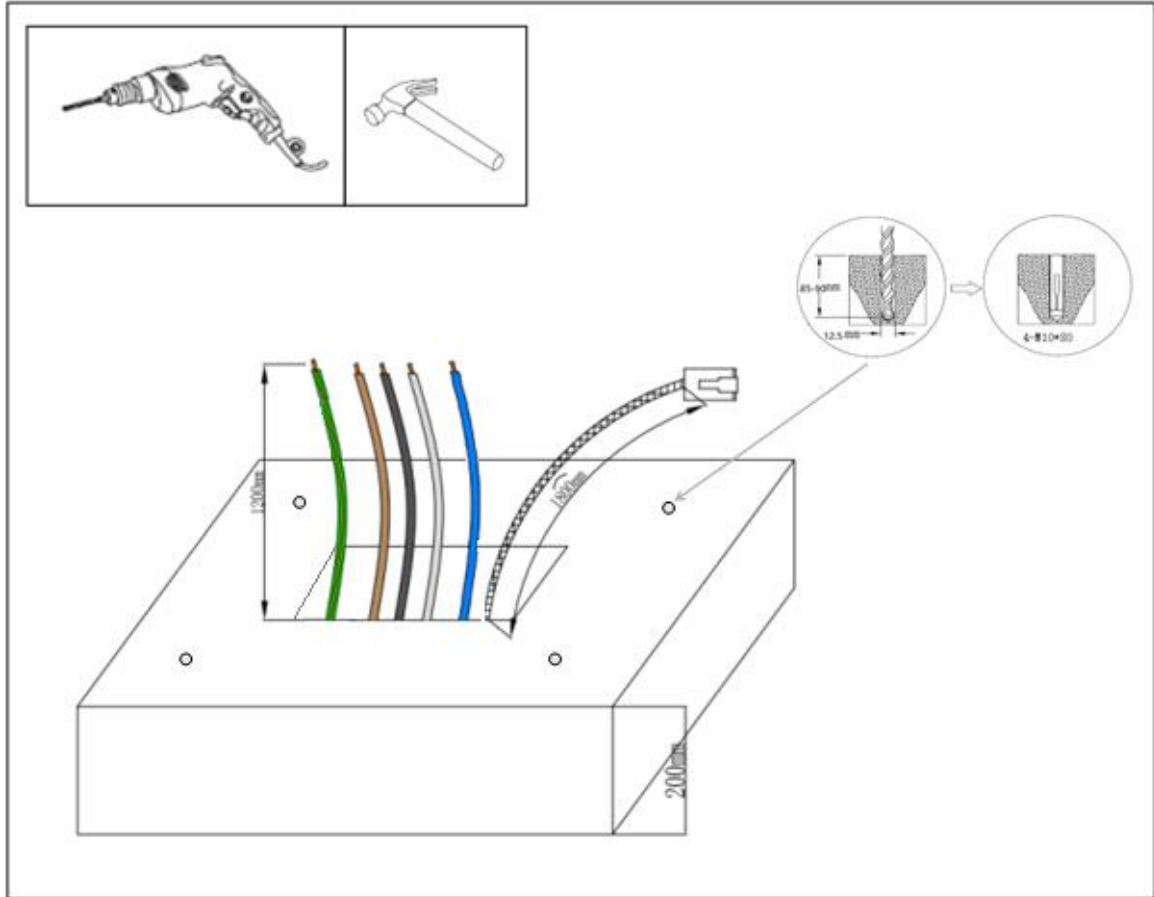

Figure 3.4.2.2-B Hole locations of the template
Step 2: Use the percussion drill to drill four holes on the ground, Install the M10*80 expansion screw as shown in **Figure 3.4.2.2-B**.